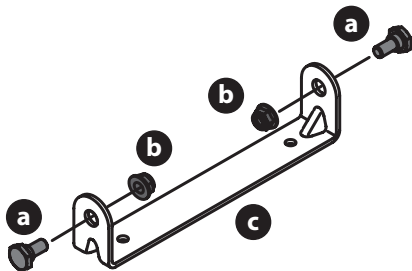

Figure 7
1. Remove the shoulder bolts (a) and lock nuts (b) from the seat mounting bracket (c) included in your hardware pack (Figure 7).